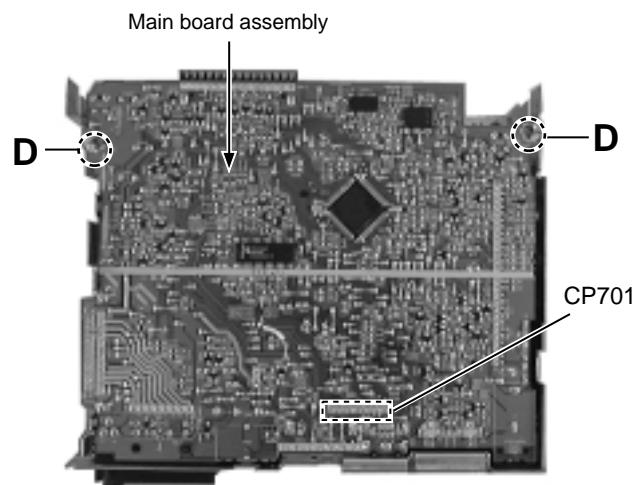

Fig. 7
■ Removing the main amplifier board assembly (See Fig.7)